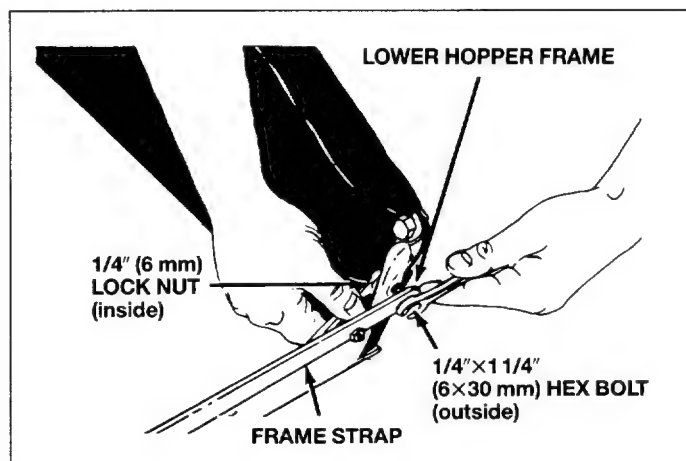

Fig. 19
9. Assemble the frame strap to the lower hopper frame. Secure with $1/4" \times 1-1/4"$ (6×30 mm) hex bolts and $1/4"$ (6 mm) lock nuts. See figure 19.